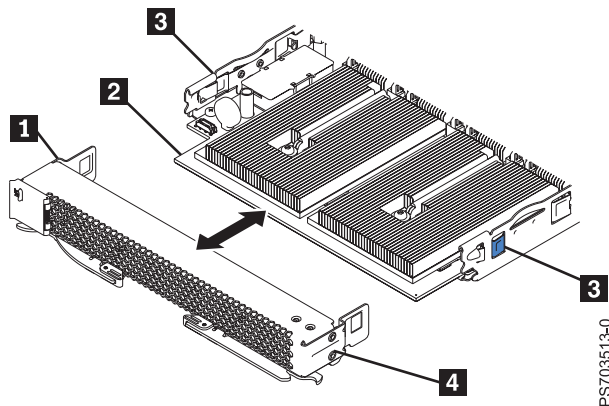

Figure 26. Removing the bezel assembly
5. Press the cover-assembly release (as shown by **3** in Figure 26 on page 240) on each side of the blade server and pull the bezel assembly (**4**) away from the blade server approximately 1.2 cm (0.5 inch).